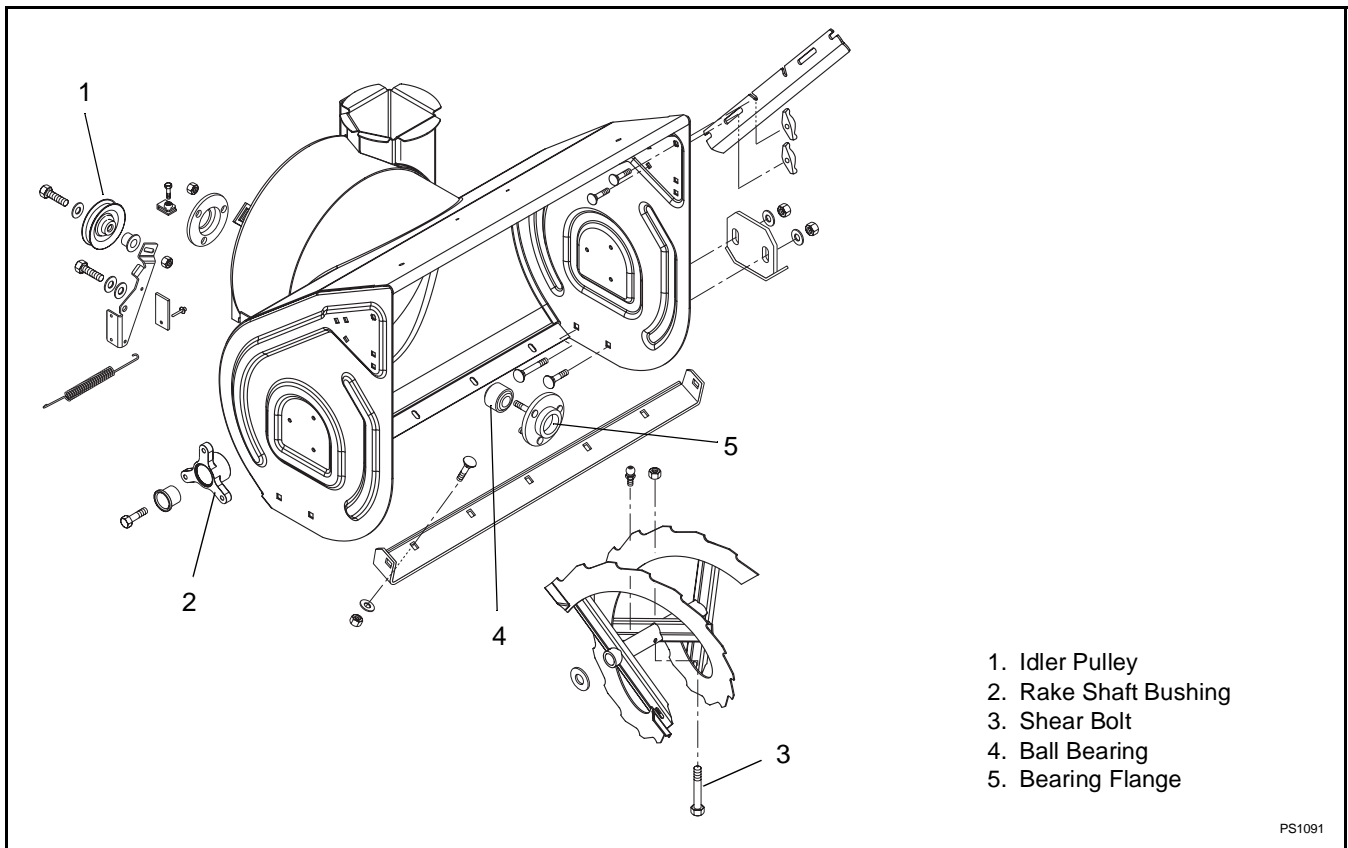

Figure 27
Place unit in the belt service position, (Figure 27).
Scraper blade is adjustable to compensate for wear (Figure 27).
1. Slide auger outward against roll pin and align hole in shaft with hole in auger (Figure 27) (holes in shaft for roll pins and shear bolts line up).